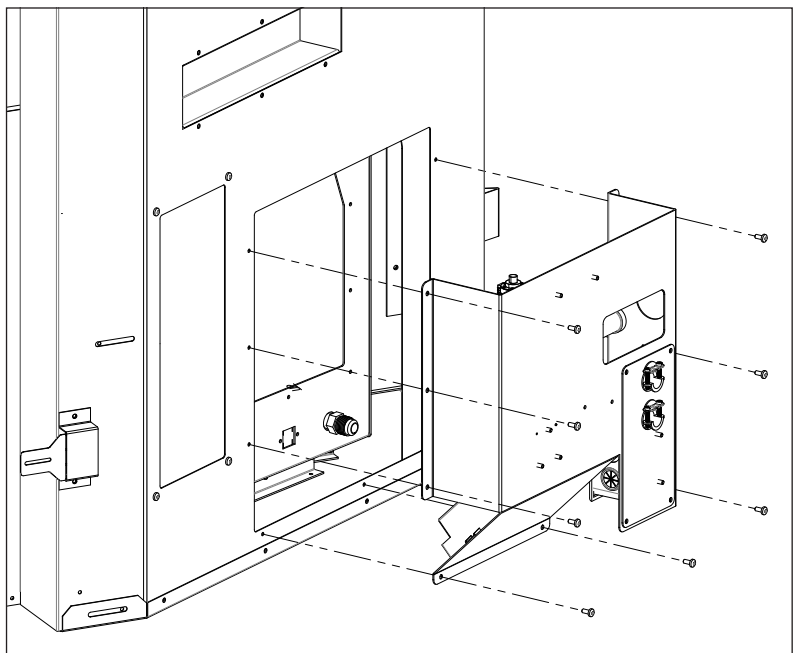

Figure 12: Component Backpack Removal
The component backpack houses the valve, IFC and fuses for the fireplace. It is located on the back right side of the unit. To remove the backpack and access the components, remove the eight (8) T-20 screws around the perimeter (see Figure 12).